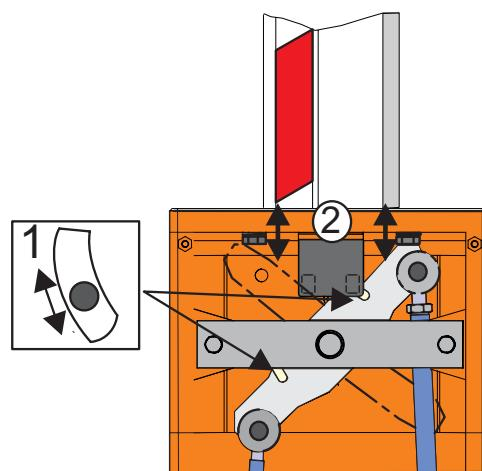

fig. 11
Adjust the position of the beam to maximum closing and opening positions, using the travel limit mechanical stops as shown in fig.11.ref.1.
The point where the automated system begins to make the slow-down movement can be modified, by moving the magnetic cylinder inside the seat located on the two arms of the rocker in the motion unit (fig.11 - ref.2).